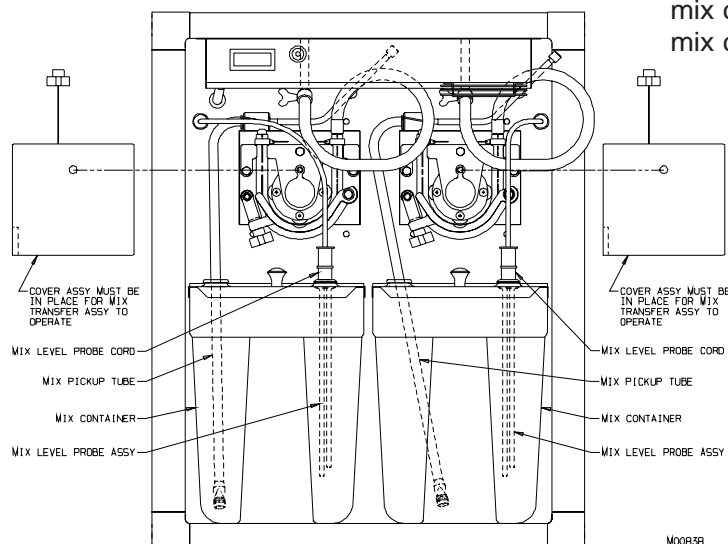

Figure 9-1
4. See figure 9-1. In the cabinet below, remove the stainless steel mix pickup tubes from the mix. Remove the mix containers and disconnect the low mix cords.